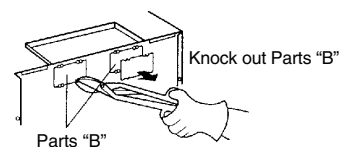

Figure 13
3. Use side cutters or thin snips to cut and remove parts "B" from Back plate. Discard parts "B". Be careful not to distort the plate. See Figure 13.